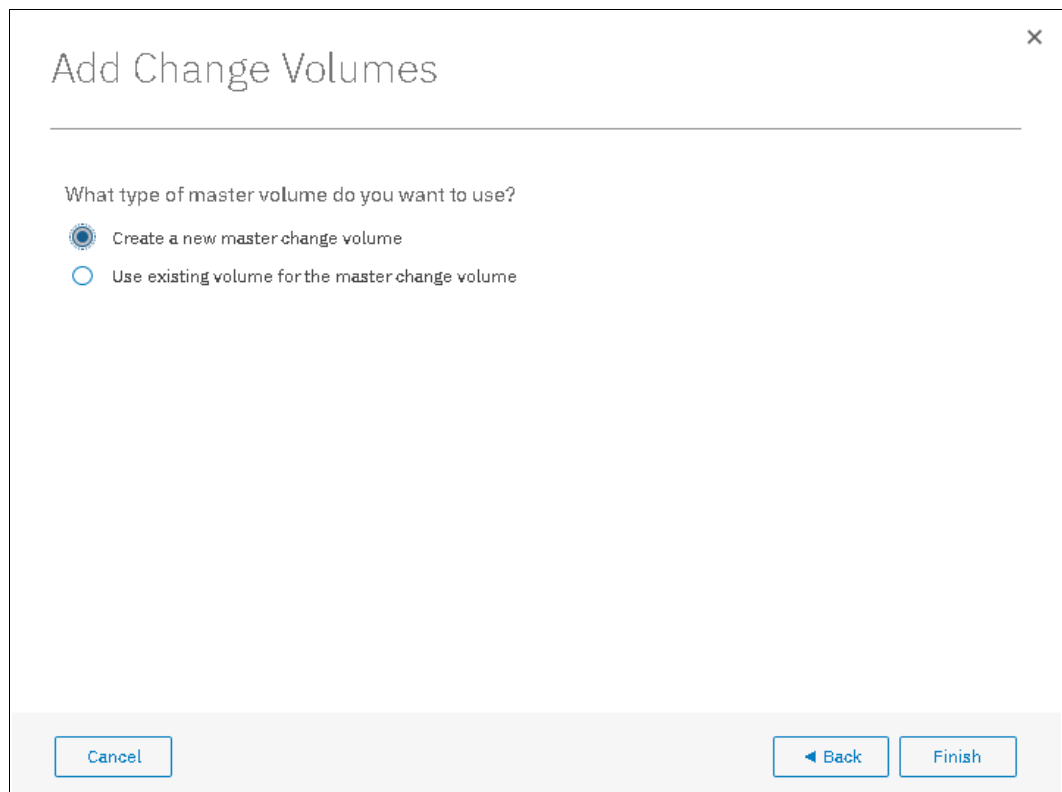

Figure 10-92 Create a master change volume or use an existing volume
7. Click **Next**. A window opens in which you are prompted whether you want to add a new change volume or use an existing change volume. In our example, we chose to create a master change volume, as shown in Figure 10-92.